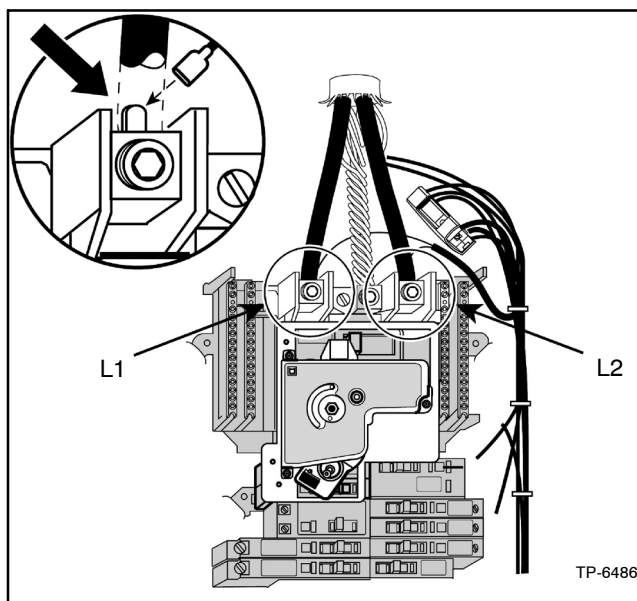
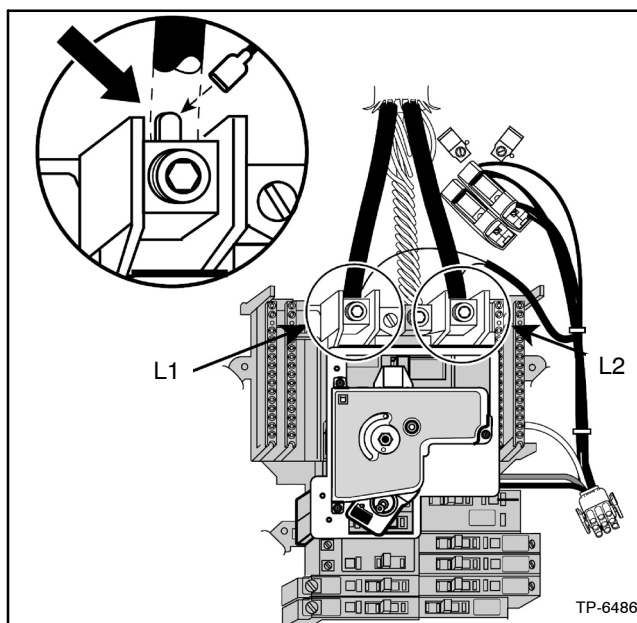

Figure 2-25 Utility Control Tap Connections, Type 1 Enclosures
Figure 2-26 Utility Control Tap Connections, Type 3R Enclosures
1. Connect lead NL1-A to terminal L1 on the main circuit breaker. See Figure 2-25 or Figure 2-26.
1. Install the line conductors at terminals L1 and L2 and secure the terminals with a 3/8 in. hex wrench or hex key. Torque the terminals to 28 Nm (250 in. lb.). See Figure 2-25 or Figure 2-26.